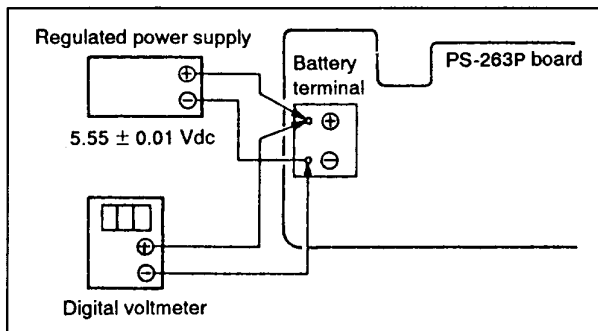

Fig. 9-4.
- 1) Connect a regulated power supply and digital voltmeter as shown in Fig. 9-4.
- 2) Connect Pin ① (TEST B) and Pin ② (GND) of CN508 on the VK-11P board with a jumper wire. (Test 2 mode)